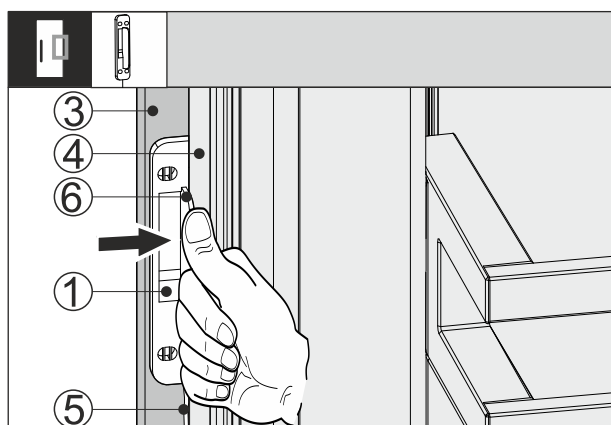

Fig. 66
- Push the knocking sensor Fig. 66 (1) between the unit front Fig. 66 (3) and the appliance door Fig. 66 (4) so that the cable Fig. 66 (5) is tensioned slightly. The knocking sensor's limit stop Fig. 66 (6) is touching the appliance door Fig. 66 (4).
- Press the knocking sensor Fig. 66 (1) to the unit front Fig. 66 (3).
- The knocking sensor Fig. 66 (1) is glued on. Gluing the knocking sensor on optimises transmission of the knocking signal.
Attaching the knocking sensor Fig. 66 (1) permanently extends the service life.
- Use the enclosed screws to screw the knocking sensor Fig. 66 (1) onto the unit front Fig. 66 (3).